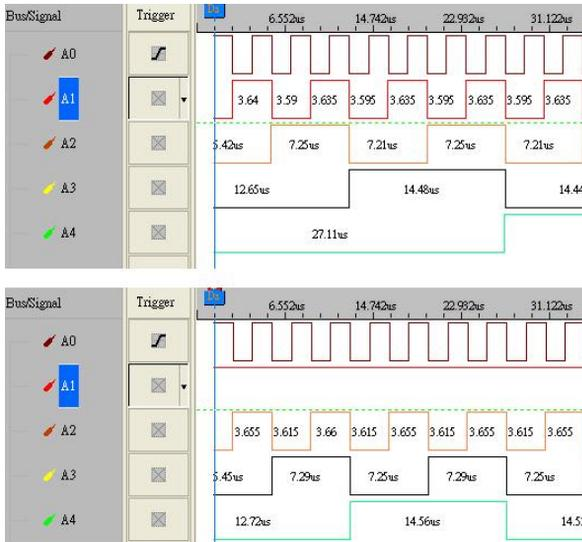

Fig 4-44 – Without/With enable setup
6. The result will be displayed in the wave display area as shown in Fig 4-44.